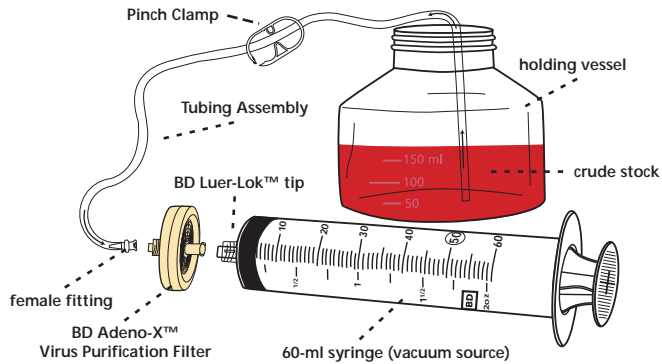

Figure 2. The BD Adeno-X™ Virus Purification Assembly. Syringe not included.
Figure 2 compares gene expression in total RNA isolated from a single tissue and our Universal Reference RNA. All genes expressed in the individual tissue show comparable or higher levels of expression in the Reference RNA. Real-time PCR shows the higher, more-consistent level of gene representation in our Universal Reference RNA compared to a competitor's product (Figure 3). Our Reference RNA consistently outperforms the competition.
**Figure 2.** BD Clontech™ Human Universal Reference Total RNA shows comparable or stronger gene expression than tissue-specific RNA in array hybridization. Total RNA isolated from a single tissue and Universal Reference RNA were reverse transcribed with Cy3-modified dUTP. The labeled cDNA probes were hybridized to individual BD Atlas™ Glass Human 3.8 Microarrays. The microarrays were analyzed using an Axon scanner and GenePix Pro 3.0 software. Images represent a portion of the arrays. Arrows indicate some of the genes showing higher expression in the Universal Reference RNA.
The BD Adeno-X Purification assembly consists of four main parts: the holding vessel, the tubing assembly, the Purification Filter, and the vacuum source (Figure 2). The BD Adeno-X
Previously, self-inactivating retroviral vectors have been reported to produce viral stocks with poor titers (3, 8). To overcome this issue, the Q Vectors include an engineered murine sarcoma virus (MSV) and Cytomegalovirus (CMV) hybrid promoter in the 5' LTR. The CMV enhancer region replaces the less-potent MMSV enhancer region found in the 5' LTR of most retroviral expression vectors. This new configuration takes advantage of E1A expression in HEK 293-derived packaging cells to activate higher viral transcript production. In Figure 2 the percent of infected cells, corresponding to the number of cells expressing green fluorescent protein (Panel A), was measured. Using these methods we find that Q Vectors produce titers of  $\sim 3 \times 10^7$  cfu/ml
**Figure 2. High titers are obtained with the Q Vectors.** In this experiment, a pQCXIN construct with Enhanced Green Fluorescent Protein (EGFP) was transfected into GP2-293 cells of the Pantropic Retroviral Expression System (K1063-1) and recombinant virus was harvested 48 hr post-transfection. NIH 3T3 cells were infected with a  $10^{-2}$  dilution of the recombinant virus.  $1.5 \times 10^6$  cells were harvested 72 hr post-infection and evaluated by BD FACS™ analysis for the percent of cells expressing EGFP (Panel A). These data indicate a titer of  $2.8 \times 10^7$  cfu/ml (Panel B). Negative control indicated in green.